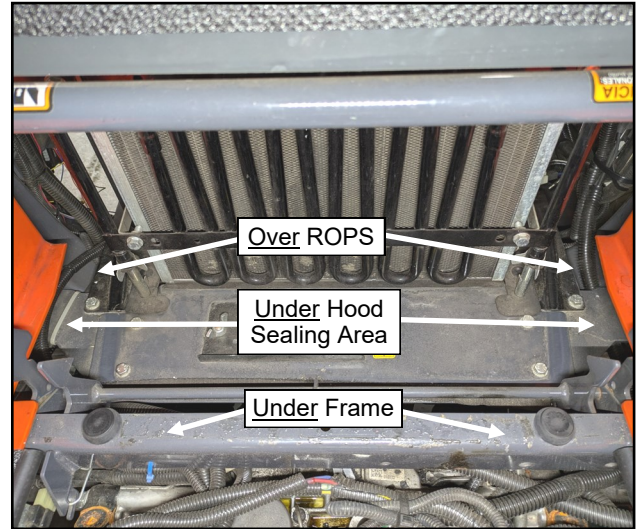

Fig. 7.4 (Route Regulator Power Harness)
- 7.4. See fig. 7.4. Route the regulator power harness forward over the ROPS tube but below the flat area that the hood seals on when it is closed.